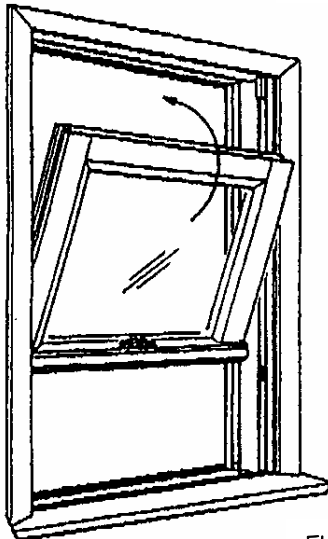

FIGURE 11
11. Swing sash up into place. Depressing the jambliner will help ease the sash into place. See Figure 11.